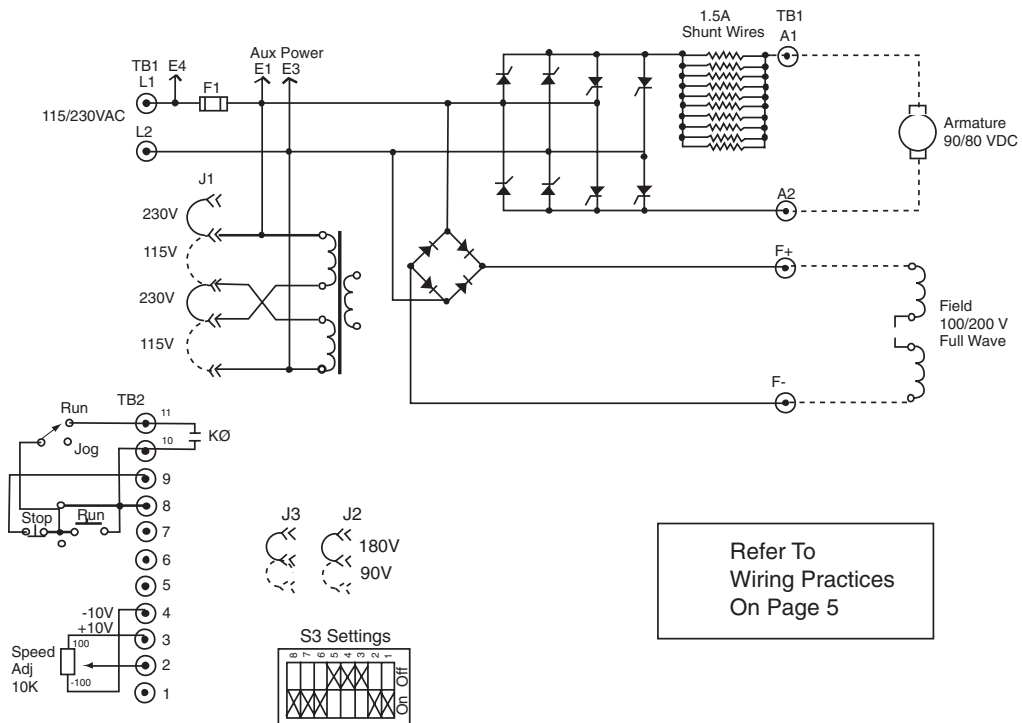

**FIGURE 5. CONTROLLER MOUNTING DIMENSIONS, VEA5-RG**
1. Mount the controller. Mounting dimensions are shown in Figure 5, below.